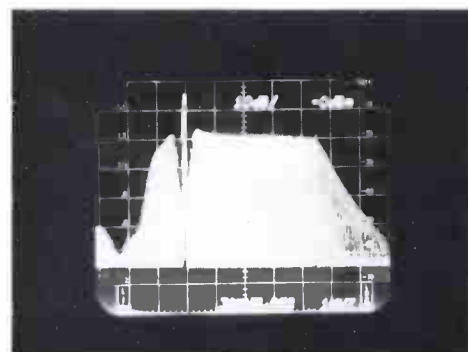

Fig. 13 Non-synchronous sideband analysis using a sweep generator.
6. The results will be similar to those observed in Figs. 13 and 14.